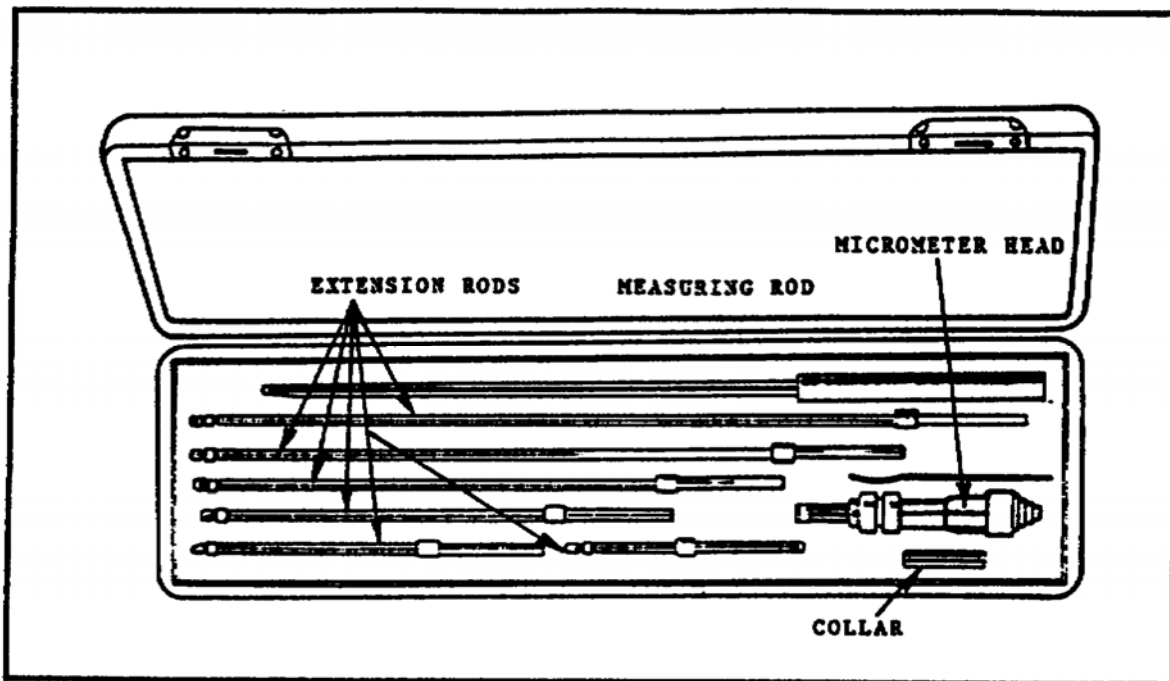

FIGURE 191. INSIDE MICROMETER SET.
(2) *Inside Micrometers.* Inside micrometers are used to measure inside dimensions. The minimum dimension that can be checked is determined by the length of the unit with its shortest anvil in place and the screw set up to zero. It consists of an ordinary micrometer head, except that the outer end of the sleeve carries a contact point attached to a measuring rod. The typical inside micrometer set (figure 191) has a range that extends from 2 to 10 inches. The various steps in covering this range are obtained by means of extension rods. The micrometer set may also contain a collar for splitting the inch step between two rods. The collar, which is 1/2 inch long, extends the rod another half-inch so that the range of each step can be made to overlap the next. The range of the micrometer screw itself is very short when compared to its measuring range. The smallest models have a 1/4 inch screw, the average have a